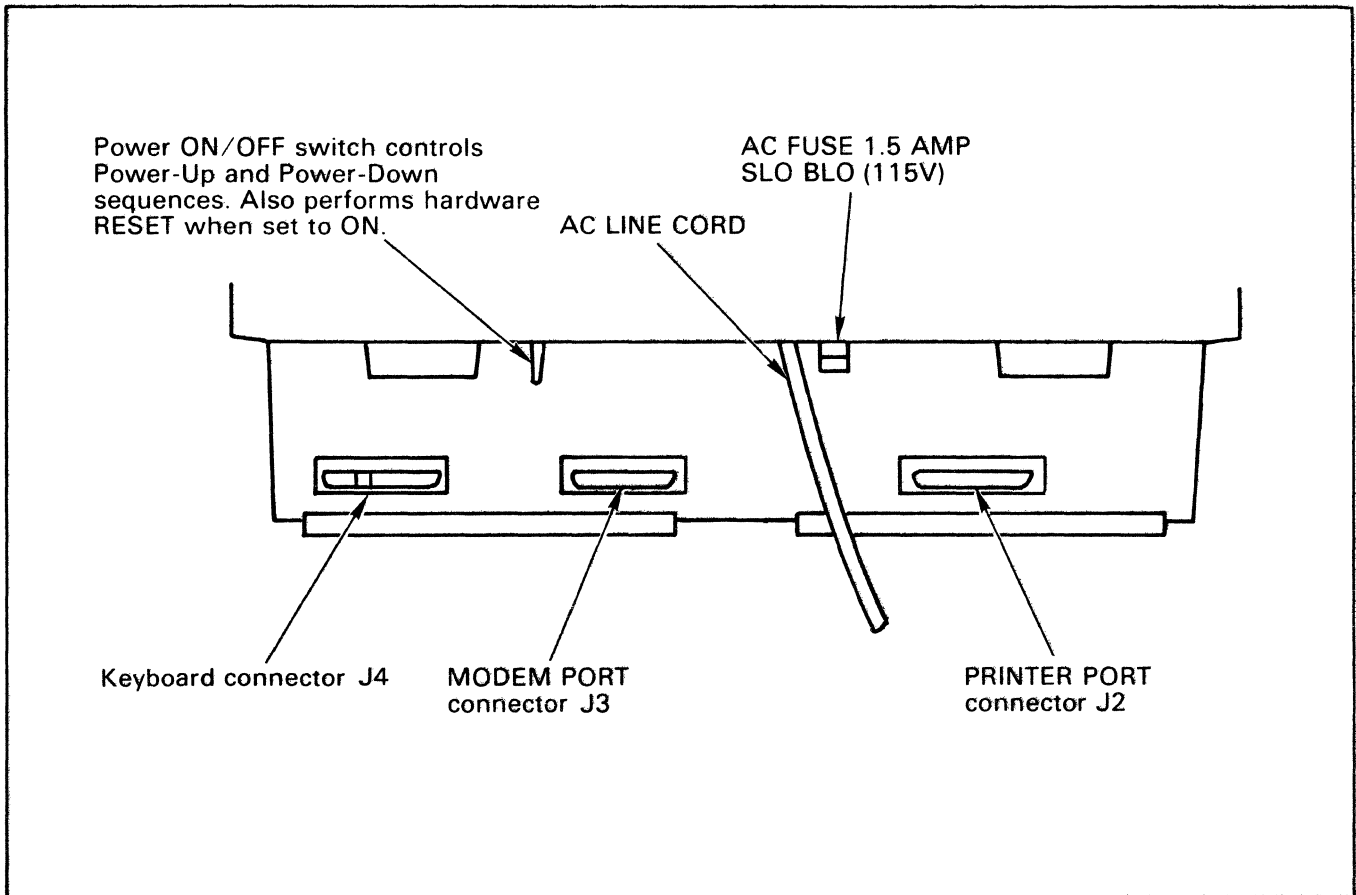

Figure 2-7. ADM 36 Panel Controls
application, while figure 2-7 shows the rear panel location of the interface connectors.
1. Check the ON/OFF switch (**figure 2-7**) to ensure that it is set to OFF.
1. Set the ON/OFF switch to ON. (See **figure 2-7**.)
Refer to **figure 2-7** and proceed as follows: